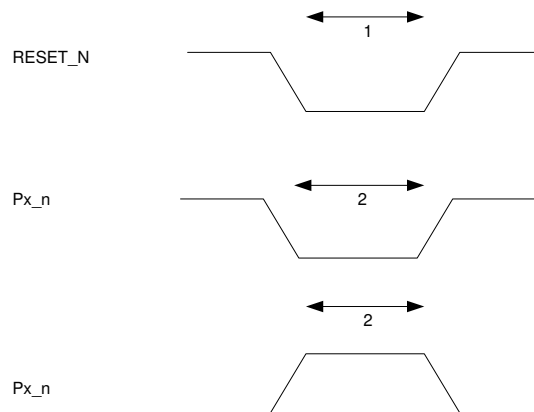

Figure 4: Control Inputs AC Characteristics
| RESET_N low width  | 250                 |     |      | ns   | See item 1, Figure 4. This is the shortest pulse that is guaranteed to be recognized as a reset pin request.Note: Shorter pulses may be recognized but will not lead to complete reset of all modules within the chip. |
| Interrupt pulse width  | t SYSCLK |     |      |      | See item 2, Figure 4. This is the shortest pulse that is guaranteed to be recognized as an interrupt request. In PM2/3 the internal synchronizers are bypassed so this requirement does not apply in PM2/3.                           |